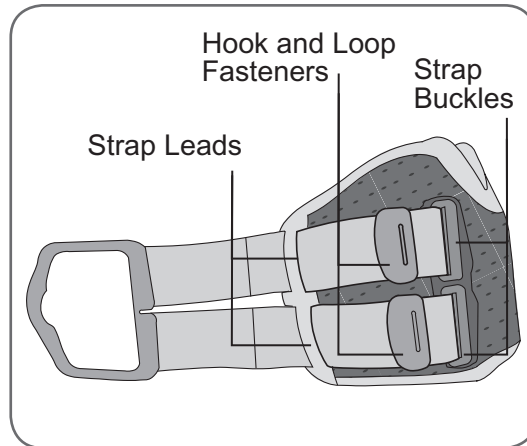

Figure 9-12: L300 FS Cuff strap attached to the L300 FS Cuff.
1. Remove the used L300 FS Cuff strap from the L300 FS Cuff buckles and strap leads. See Figure 9-12.